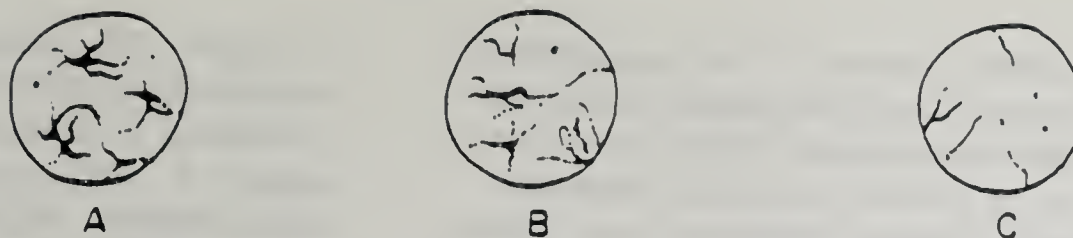

FIG. 112. Stages of maturation in the reticulocyte.
9. As soon as the proper area is selected, the reticulocytes may be counted. If the smear has not been counterstained with Wright's stain, the red cells are a light to medium green in color. The RNA present in the reticulocytes stains a deep blue. When counterstaining with Wright's stain, the red cells are pink, whereas the RNA in the reticulocytes stains a deep purple. The reticulum may be abundant or sparse, depending upon the cell's stage of development. The youngest reticulocyte shows a larger amount of RNA (Fig. 112), whereas the more mature reticulocyte shows only a small amount of RNA (Fig. 112C). Count all of the red blood cells in the first field on one cell counter. At the same time enumerate the